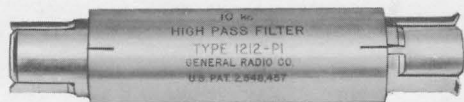
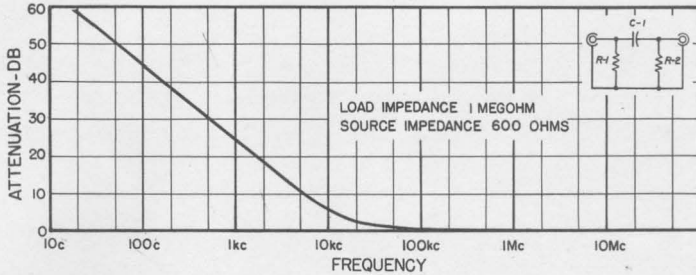

Figure 5.
Figure 6.
Attenuation Characteristics: See Figure 6.
2.3 USE WITH FILTERS. For measurements above 10 kc, the Type 1212-P1 (Figure 5) is recommended for elimination of low-frequency noise and hum. Attenuation characteristics are shown in Figure 6.